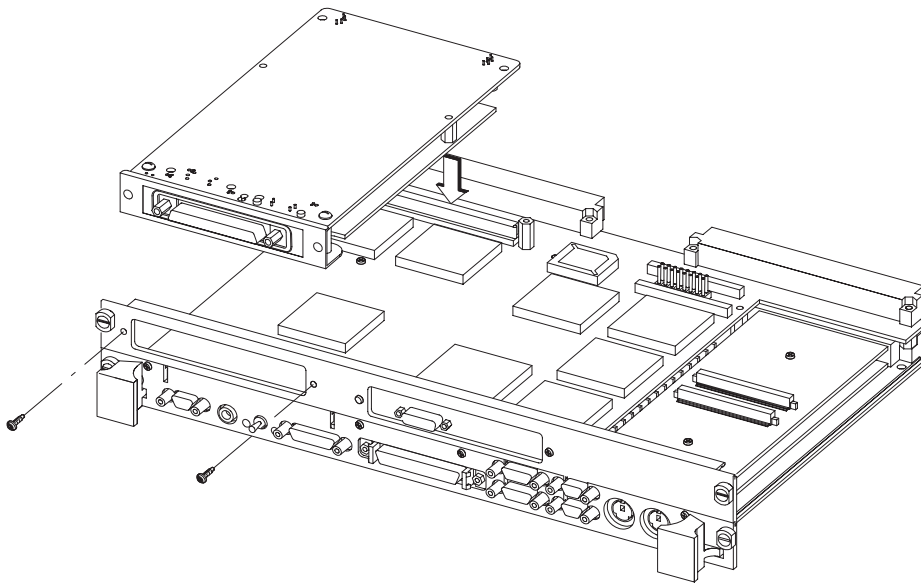

Figure 2–4. Installing the FWD SCSI Adapter
- a.** Align the connector on the FWD SCSI adapter with the cutout on the front extension plate. See Figure 2–4.
- b.** Align the connector on the bottom of the adapter with the connector on the GSC expansion adapter. See Figure 2–4.
- d.** Insert the the two screws provided in the kit through the top of the adapter into the two standoffs on the GSC expansion adapter. See Figure 2–4.